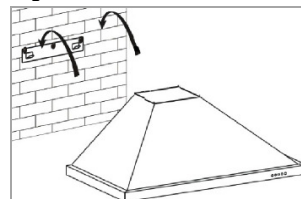

Fig. 5
- Fasten the outer (lower) shaft with the bracket (03) using the metal screws 2x ST4\*8 (**Fig. 5**).